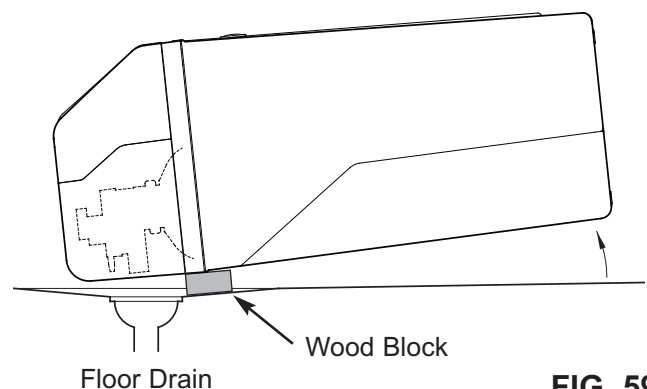

FIG. 59
6. Lay a piece of 2 inch thick board near the floor drain (See Figure 59).